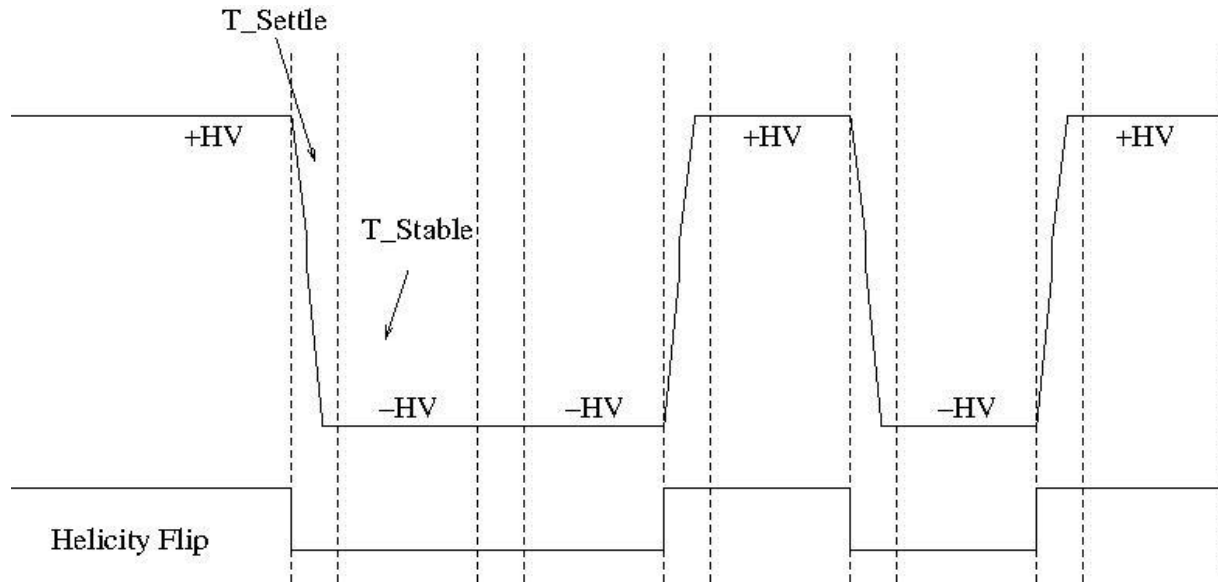

Figure 28: Pockels Cell HV showing the Helicity Flip.
3. Helicity Flip: This is the signal that goes to the Pockels Cell and IAs. The Pockels Cell changes its voltage with this signal thus changes the circular polarization of the laser light, see Figure 28. Its length is T_Settle + T_Stable. This is the real time helicity and goes only to the Laser Hut in CEBAF Injector. The IAs used to implement helicity-correlated charge feedback receives this signal, too. For one helicity, 0 voltage is applied to the IA and for the other helicity a voltage of up to ± 60 V is applied.
Figure 28 shows the Pockels Cell (PC) high voltage (HV) while the helicity is flipping. The Pockels Cell HV changes between +3 kV to -3 kV.